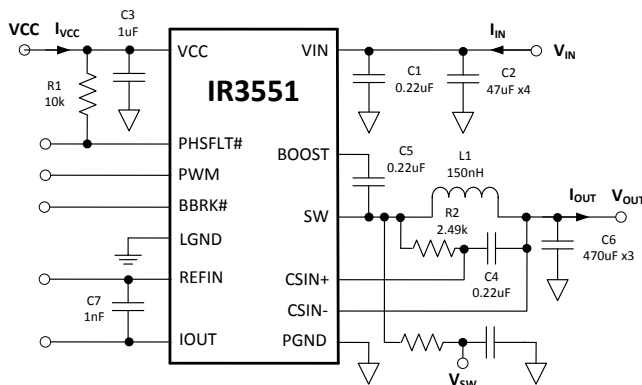

Figure 32: IR3551 Power Loss Measurement
Circuit of Figure 32,  $V_{IN}=12V$ ,  $V_{OUT}=1.2V$ ,  $f_{SW} = 400kHz$ ,  $L=150nH$  (0.29mΩ),  $VCC=7V$ ,  $T_{AMBIENT} = 25^{\circ}C$ , no heat sink, no air flow, 8-layer PCB board of 3.7" (L) x 2.6" (W), no PWM controller loss, no inductor loss, unless specified otherwise.
Circuit of Figure 32,  $V_{IN}=12V$ ,  $V_{OUT}=1.2V$ ,  $f_{SW} = 400kHz$ ,  $L=150nH$  (0.29mΩ),  $V_{CC}=7V$ ,  $T_{AMBIENT} = 25^{\circ}C$ , no heat sink, no air flow, 8-layer PCB board of 3.7" (L) x 2.6" (W), no PWM controller loss, no inductor loss, unless specified otherwise.
The single-phase IR3551 efficiency and power loss measurement circuit is shown in Figure 32.